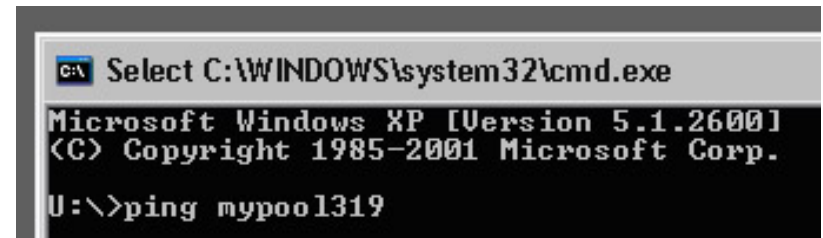

Figure 6
- 3) At the command prompt, type "ping mypoolnnn" where nnn is the last 3 digits in the ACHN's MAC address (see "ACHN's URL" on page 3) and press the ENTER key on your keyboard (Figure 6).